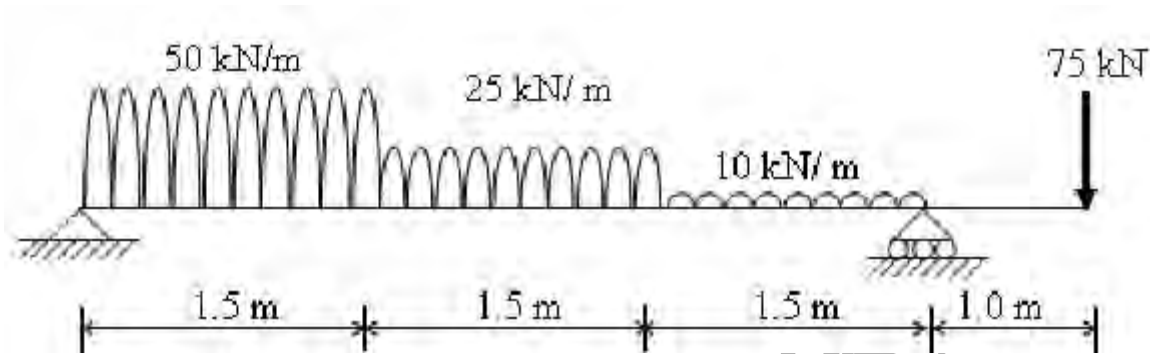

Figure 7
7. Draw the shear force and bending moment diagrams for a beam supported and loaded as shown in figure 7. Locate the salient points. [15]